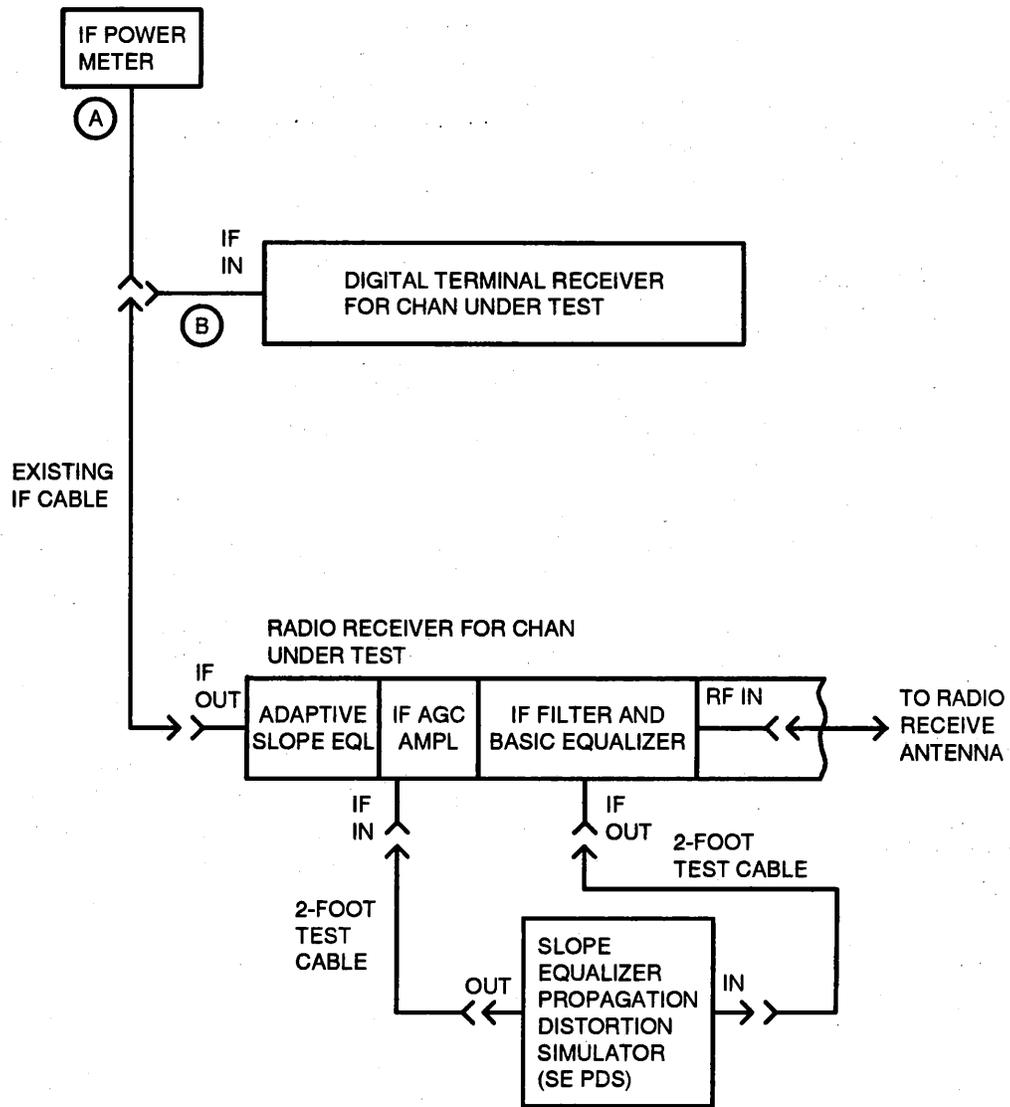
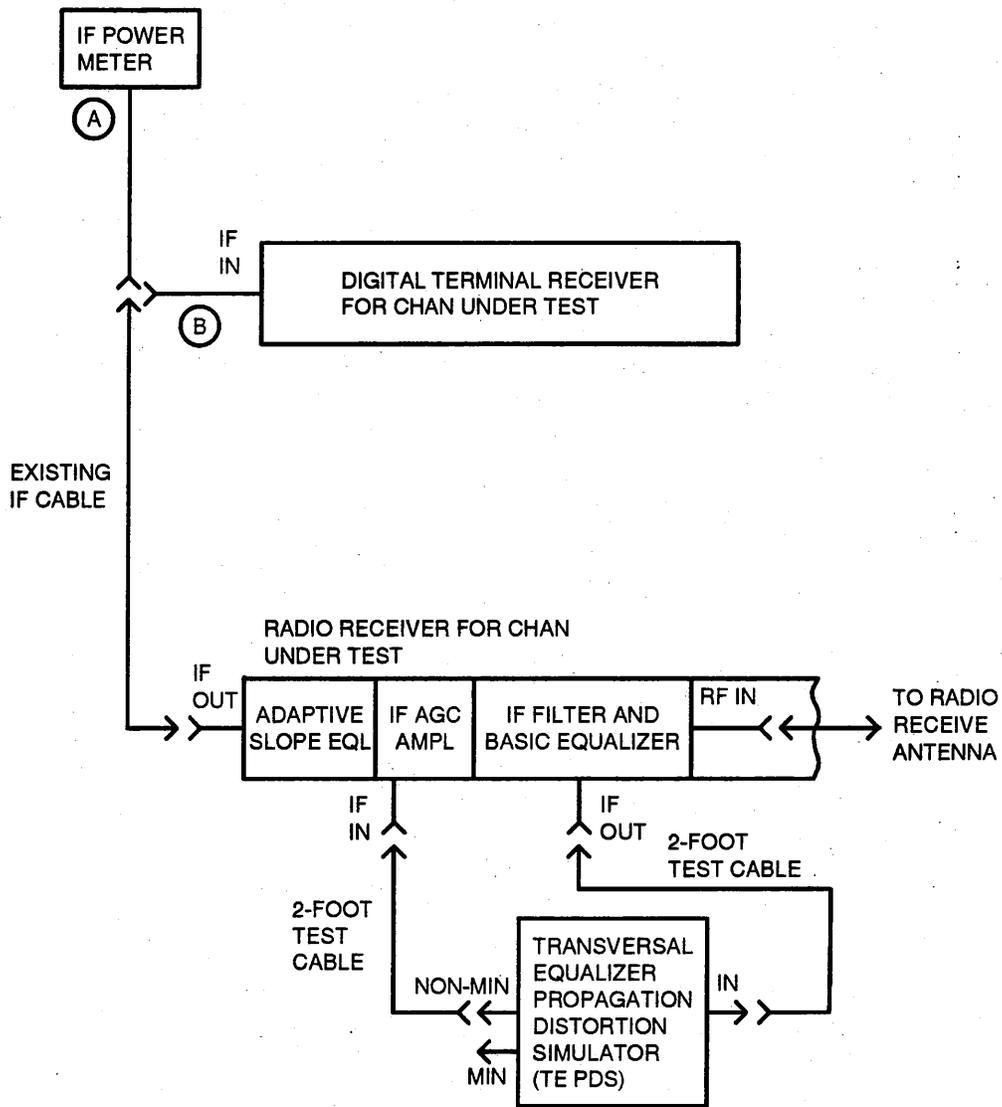

Figure 1—Slope Equalizer Performance Check Test Setup
Figure 2- Transversal Equalizer Performance Check Test Setup
The test configurations used for the over-the-air propagation distortion ASE and TE performance tests are shown in Figures 1 and 2, respectively. The interrupt tests are performed with the setup in Figure 2, less the TE PDS for the non-robust, with or without TE, and robust, without TE, cases.
- Refer to Figure 1.
3. Establish setup for ASE Performance test (Figure 1)
- c. Using the power meter, measure the power of the IF input cable as shown in Figure 1, Option A.
6. Disconnect the power meter and reconnect the IF cable to the RCV IF IN jack of the digital receiver under test (Figure 1, Option B).
14. Establish setup for the TE performance test (Figure 2).
16. On the terminal shelf patch panel, remove the IF input cable from the associated RCV IF IN jack, and measure the power as shown in Figure 2, Option A.
17. Disconnect the power meter and reconnect the test cable to the RCV IF IN jack of the digital receiver under test (Figure 2, Option B).